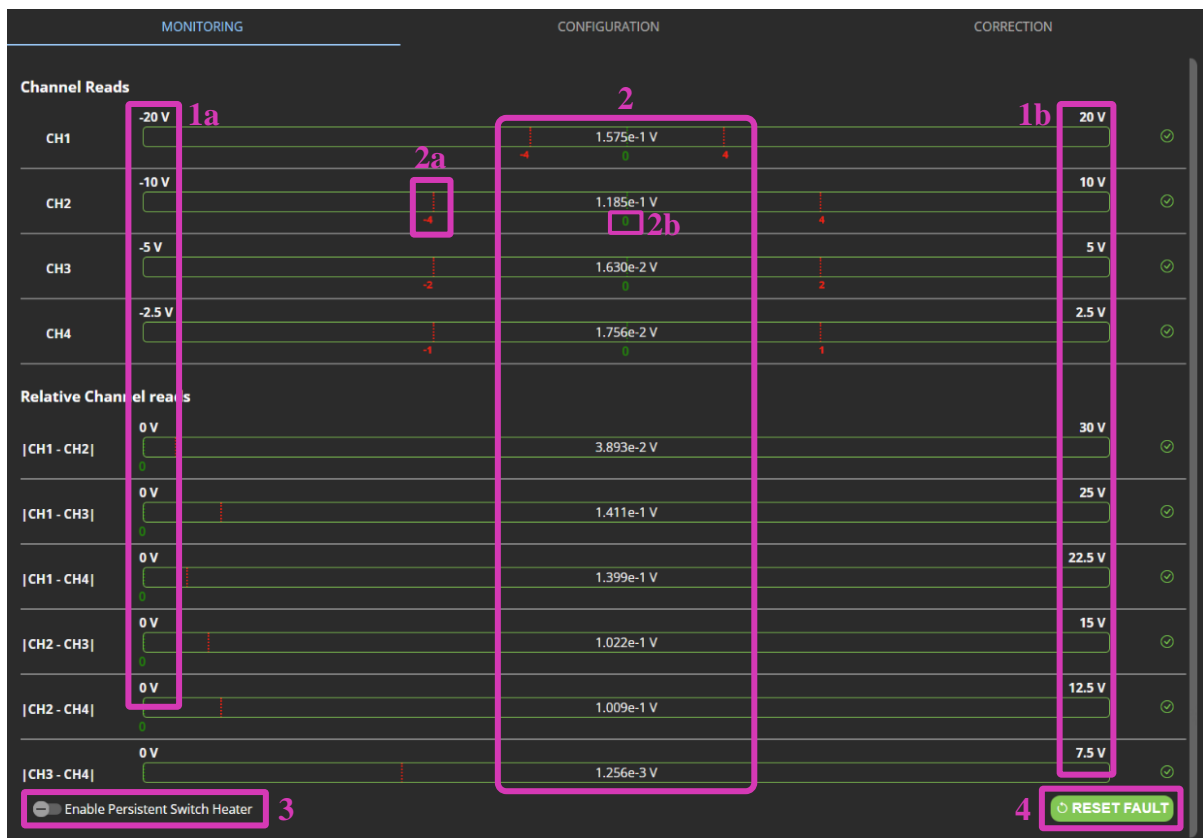
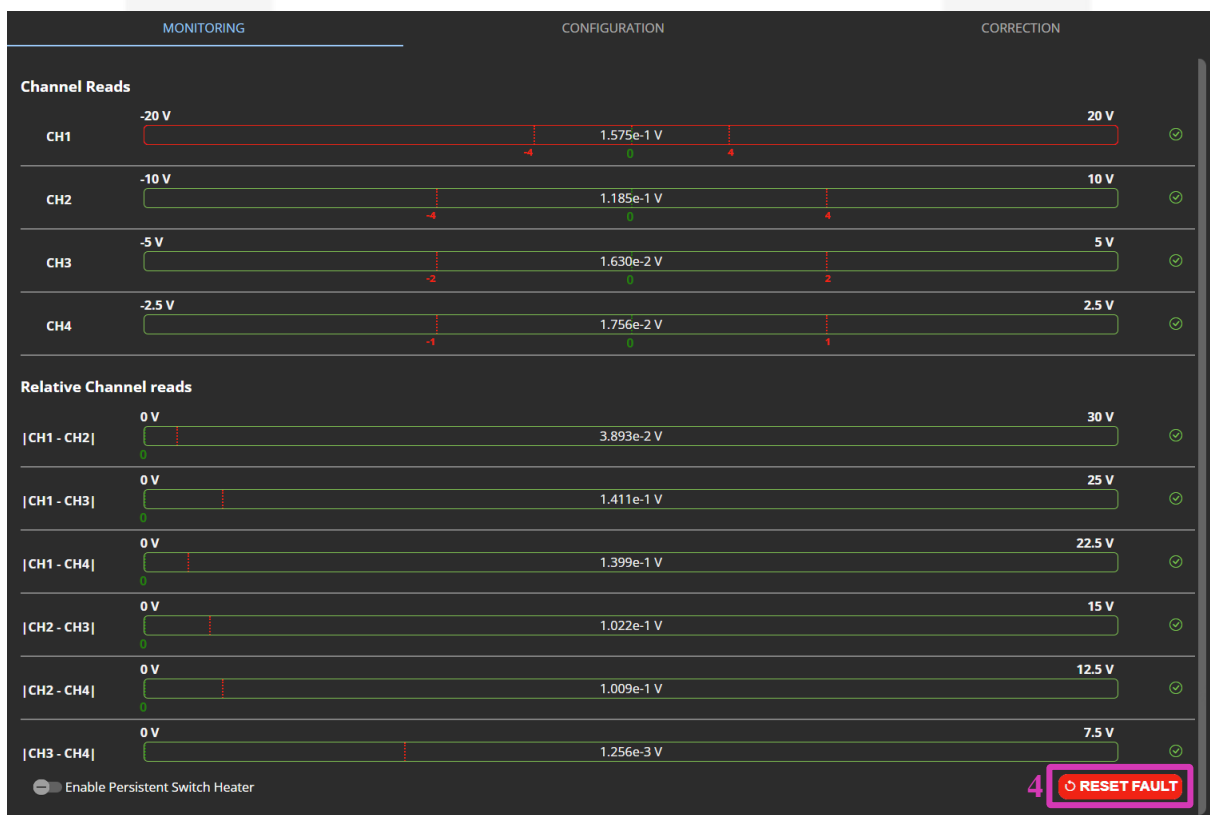

Figure 2: Monitoring window
Figure 3: Monitoring window in fault condition.
- 4) This button has a double function: it indicates status of the QDS and it can be used to reset the status of the QDS. In normal operation (No fault condition) the icon is green (as in **Figure 2**), while in fault condition the icon becomes red (as reported in **Figure 3**). By clicking the “*reset fault*” button the fault conditions are cleared.